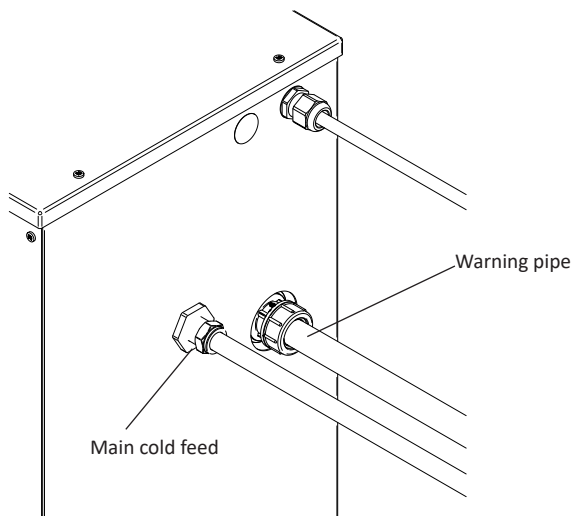

Fig. 4
4.11 **Cold mains feed connection:** The connection to the cold water mains inlet is made using the upper G ½ male threaded connection. See Fig. 4. When tightening ensure the fill valve within the tank is not rotated. If the valve is rotated it may not function correctly with the risk of flooding.
4. The warning pipe should be connected to a suitable drain via a tundish enabling visual warning of an overflow condition. The overflow fitting is designed to use 19 to 23 mm diameter plastic waste pipe or connect to G ¾ threaded pipe. Ensure there is a demountable joint in the pipe to allow the removal of the Matrix Maxi if needed. See Fig. 4.